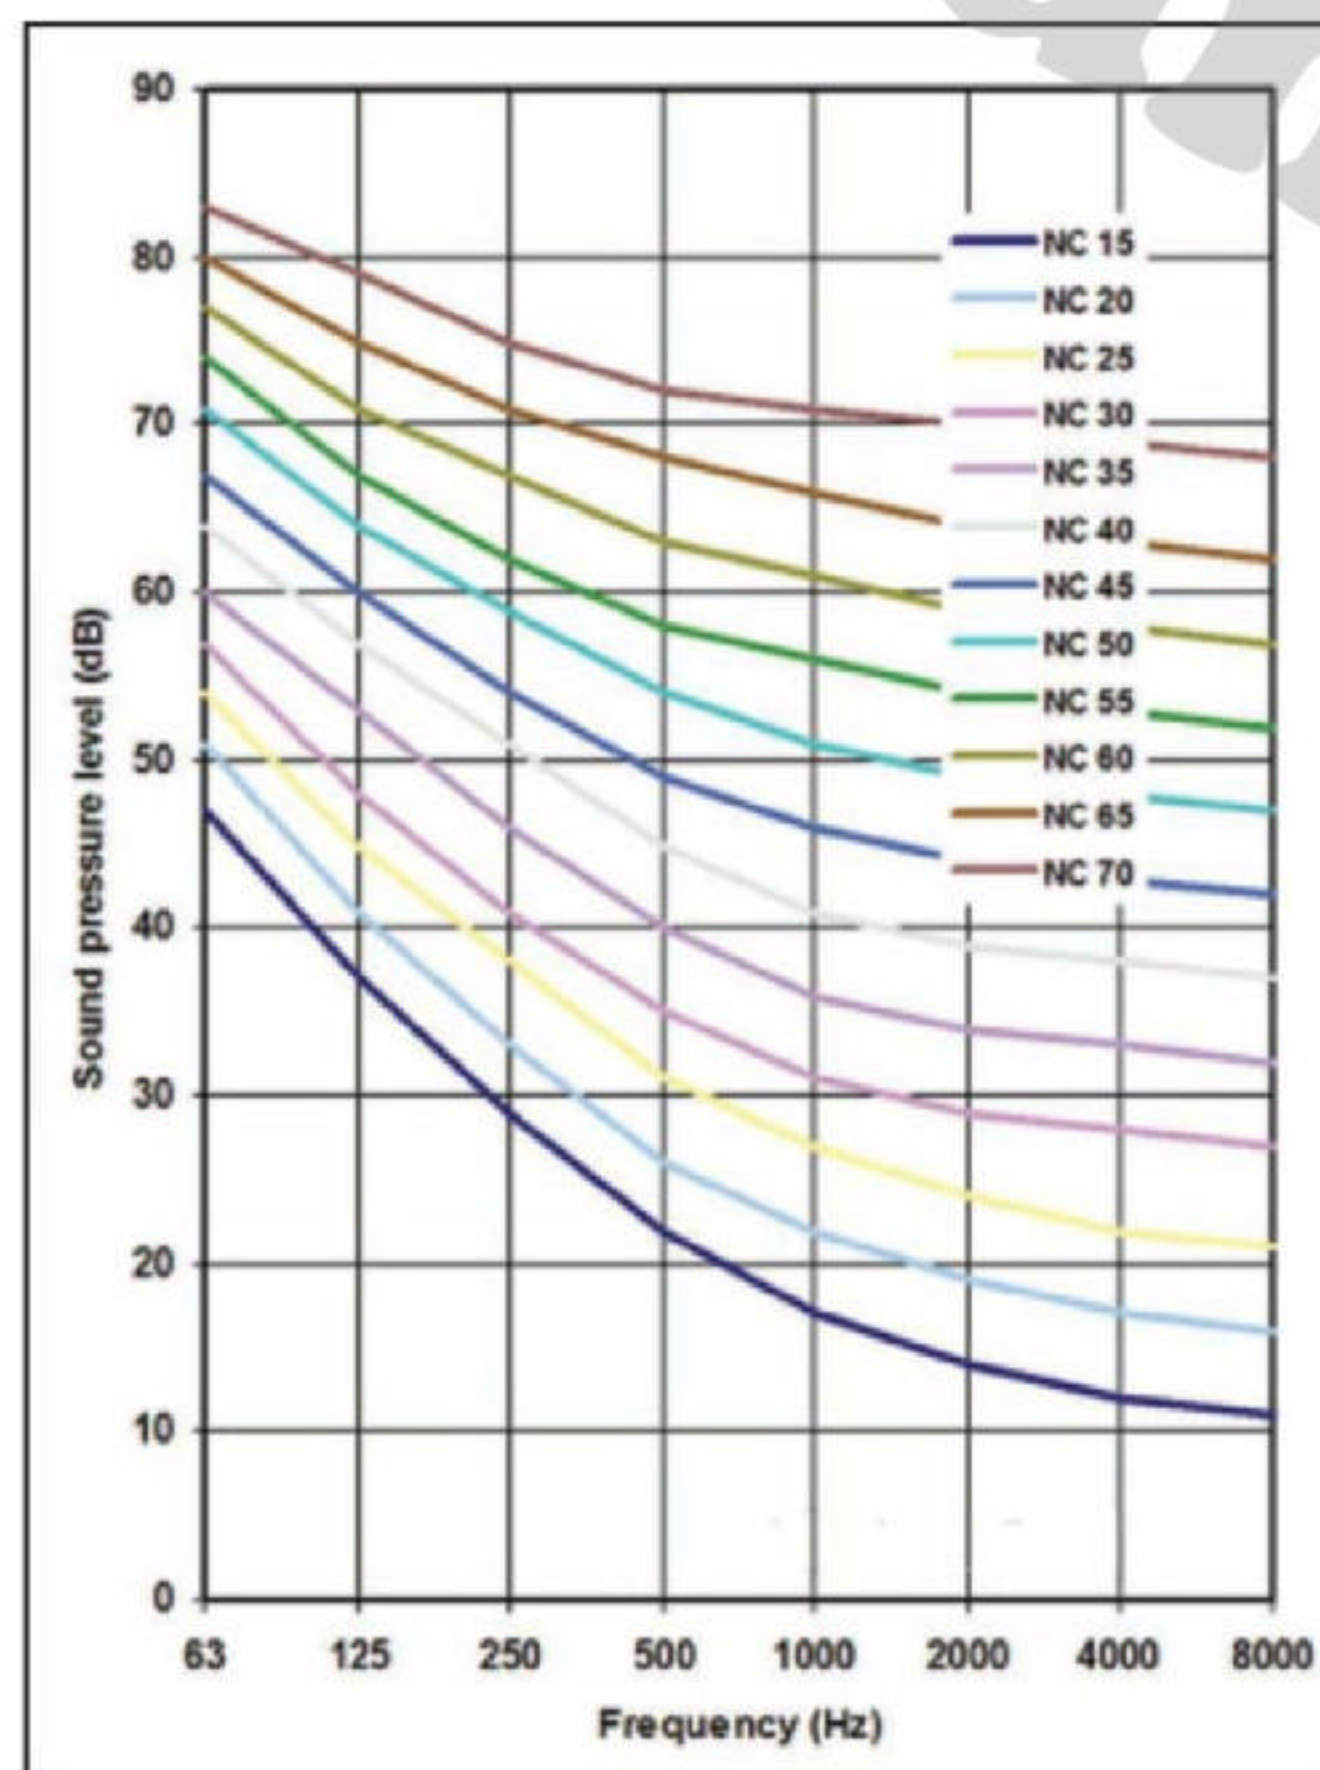

Figure 1: The NC curves are one standard way of specifying noise levels.
In architectural acoustics, noise is often measured in dBA, which is a frequency-weighted measurement that takes into account the frequency response of the human hearing system. However, noise specifications are often given in Noise Criteria (NC) or Room Criteria (RC) values. The NC specification was introduced by Leo Beranek in the late 1950s. The method essentially compares noise spectra to the equal loudness contours. Although this is similar to what A-weighting does, the A-weighting curve only correlates with the 40-dB equal-loudness contour. **Figure 1** shows the curves that define the specific NC values.